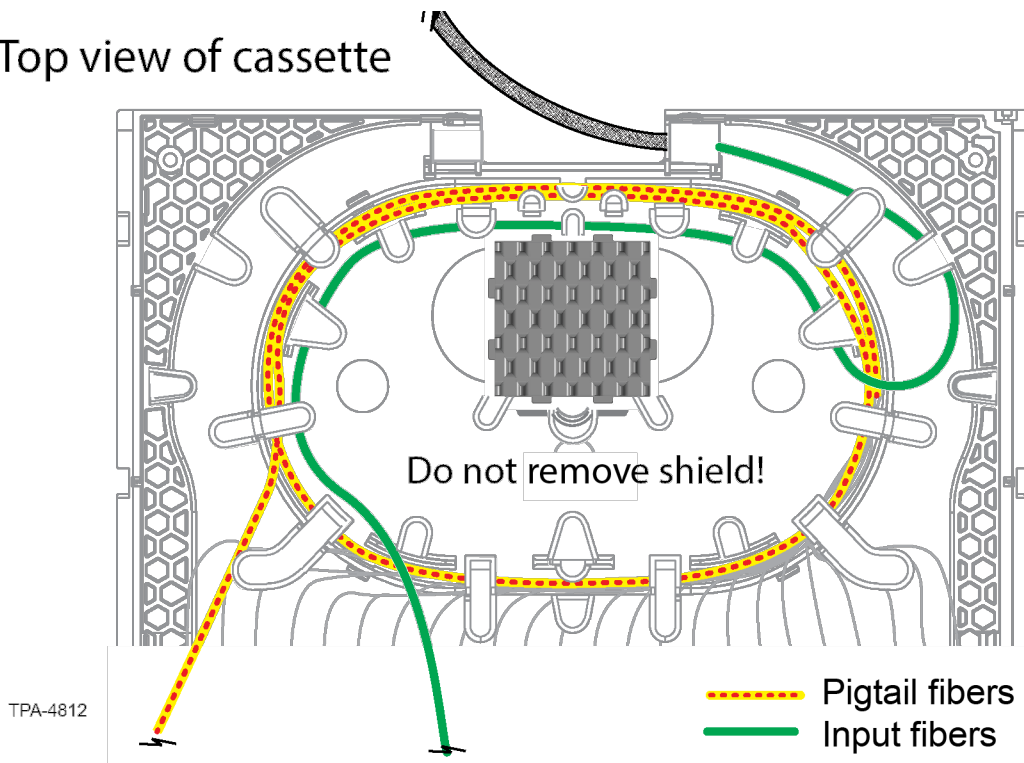

Figure 54
Step 8: Uncoil two loops of pigtail fibers from inside the cassette (Figure 54). Do NOT lift the plastic shield or remove fibers from beneath it.